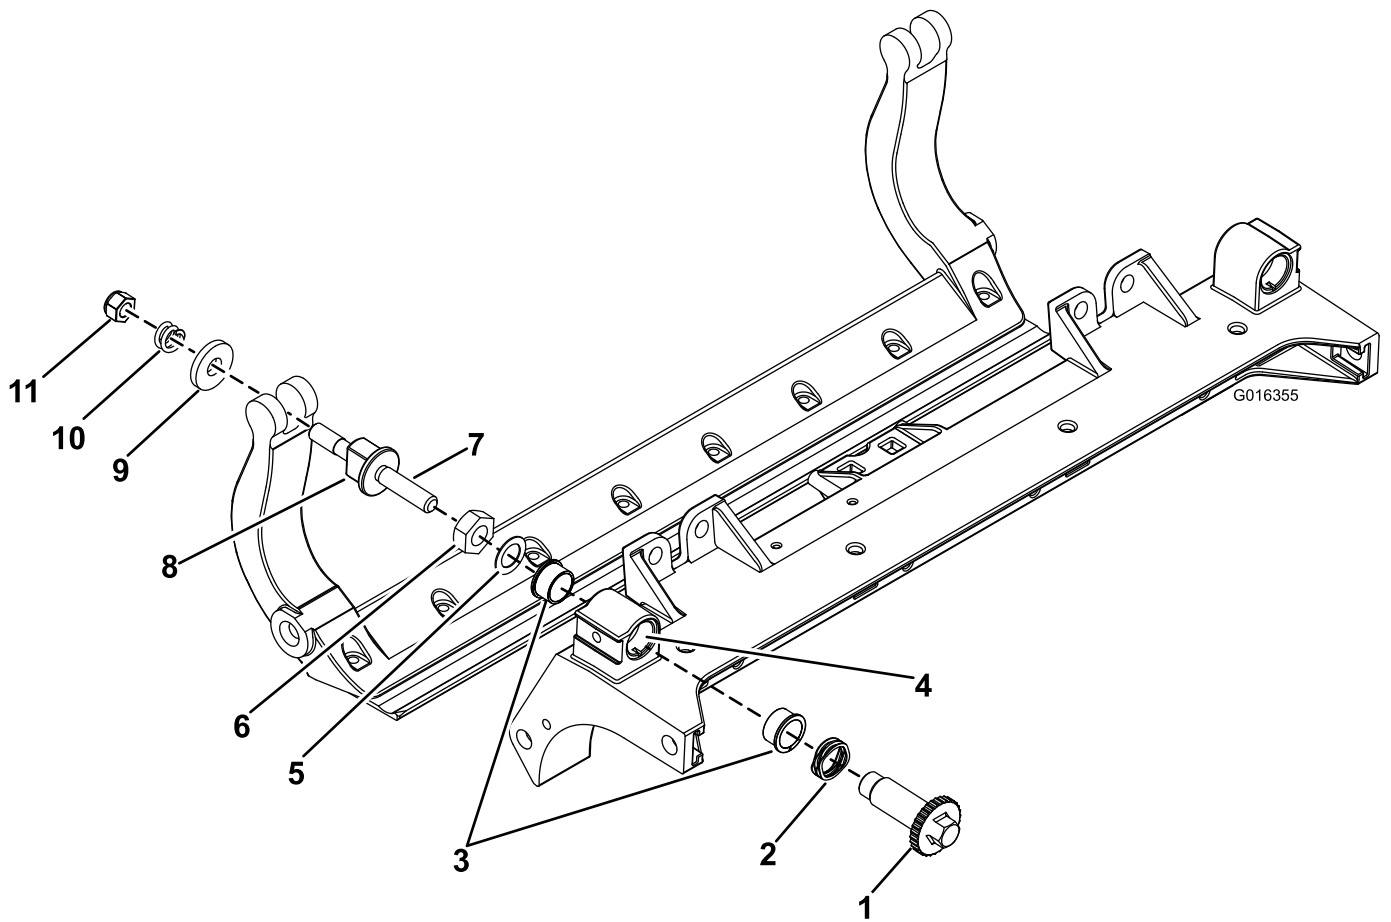

Figure 33
- B. Place a steel washer outside each of the nylon washers (Figure 33).
1. Remove all parts; refer to *Installation Instructions* for HD DPA Kit Model 120-7230 and to Figure 33.
2. Apply anti-seize compound to the inside of the bushing area on the center cutting unit frame (Figure 33).
3. Align the keys on the flange bushings to the slots in the frame and install the bushings (Figure 33).
4. Install a wave washer onto the adjuster shaft and slide the adjuster shaft into the flange bushings in the frame of the cutting unit (Figure 33).
5. Secure the adjuster shaft with a flat washer and a locknut (Figure 33). Torque the locknut to 20 to 27 N·m (15 to 20 ft-lb).